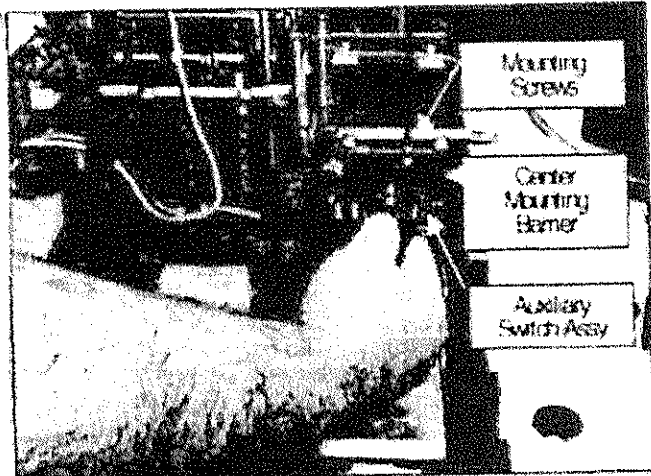

Fig. 4. Installation of Auxiliary Switch Assembly.
3. Mount the switch assembly to the center mounting barrier as shown in Fig. 4 using two panhead screws (0.138-32 x 0.375) and lock washers. A completed assembly is shown in Fig. 5.